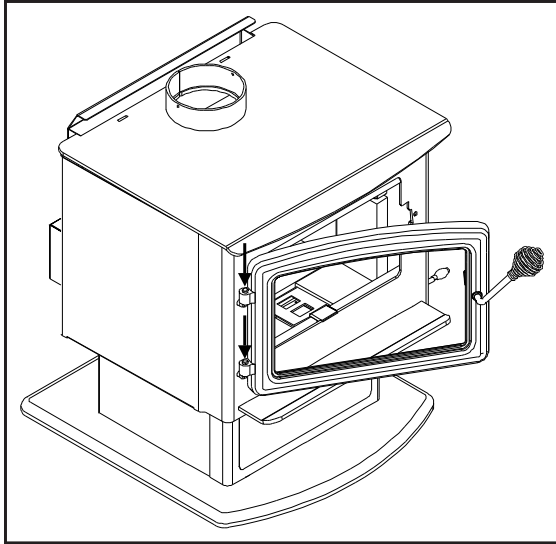

Figure 48: Installation Door onto Unit.
2. Place the door assembly on the two (2) hinge pins mounted on the body of the unit. Refer to Figure 48.